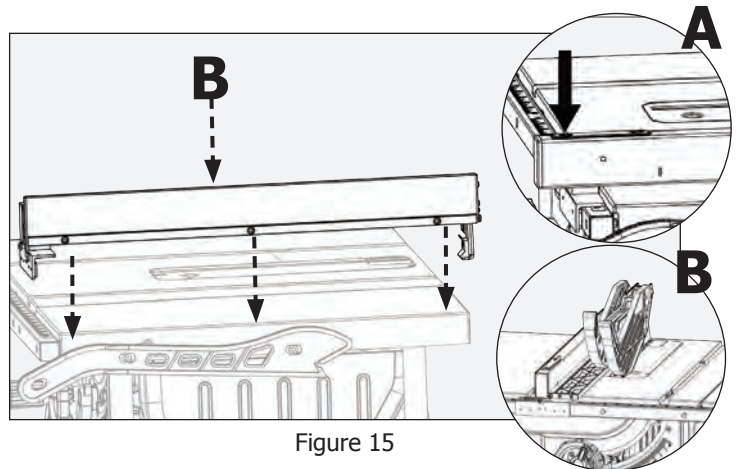

Figure 15
Position rip fence (B) over the table as shown in Fig. 15. Lower the rear end of the rip fence (B) over the back of the table; then lower the front end (with lock handle) over the front of rail on the front of the saw. Engage lock on the rip fence after placing fence in desired location on the table (Fig. 15).